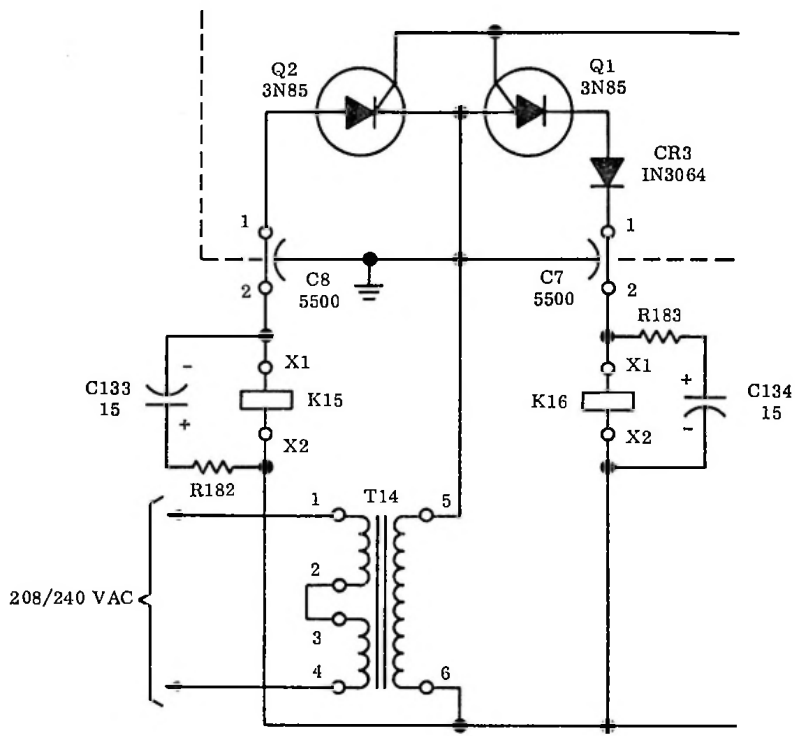

Figure 4. Revised Schematic
7. Figure 4 is a revised schematic.